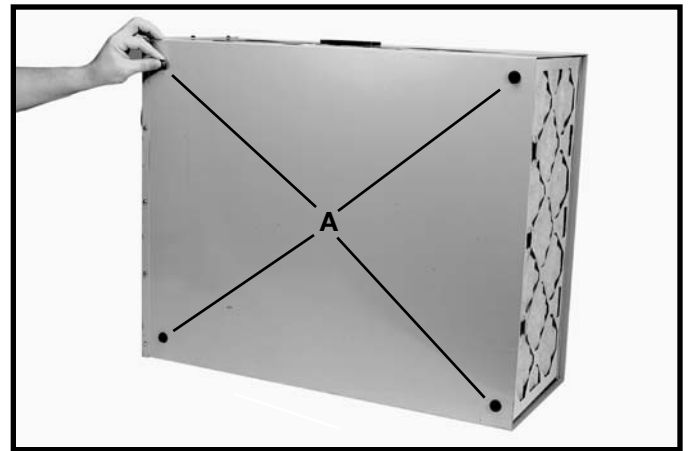

Fig. 3
1. Locate (4) self-adhesive rubber feet (A) Fig. 3, supplied with the unit. Carefully place Air Cleaner on a firm supporting surface with access to the bottom of the cabinet. Apply a self-adhesive rubber foot (A) Fig. 3, to the bottom at each corner of the air cleaner cabinet. The rubber feet will help eliminate vibration and will prevent the possibility of the air cleaner “walking” across the work or floor surface.